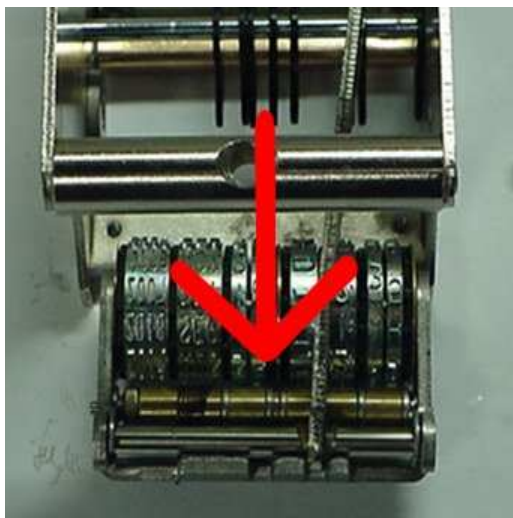
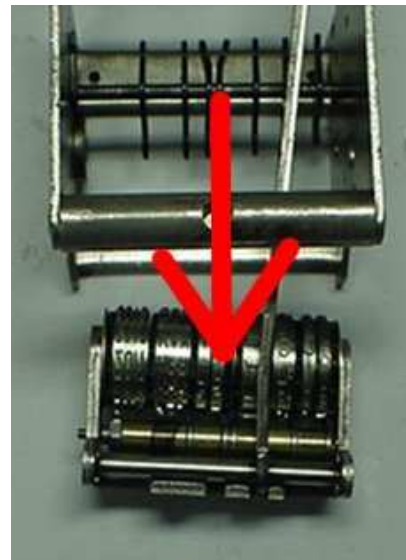

**Fig 9**
**Fig 10**
**Take the short shaft and push the printing wheel shaft out. (fig 9) Using the short shaft to hold the wheels in place in the actuating pawl assembly. (fig 10)**